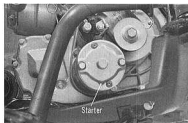

Fig. 7B-10
8. Remove the starter from the engine. (Fig. 7B-10)